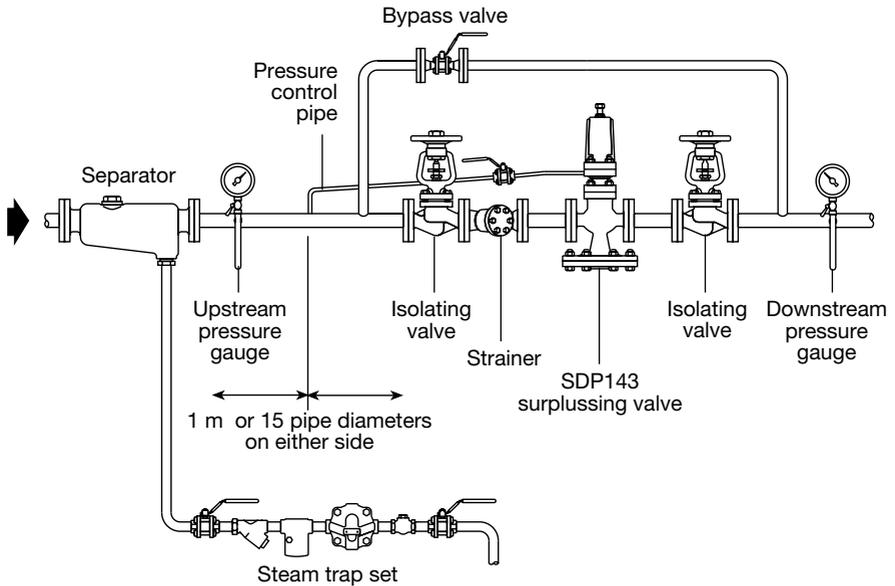

Fig. 3
3.2 Fitting (Figure 3, opposite)